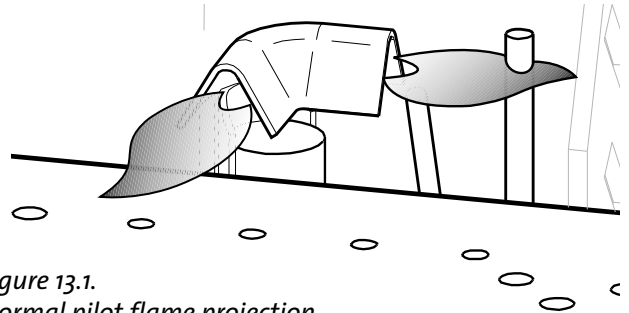
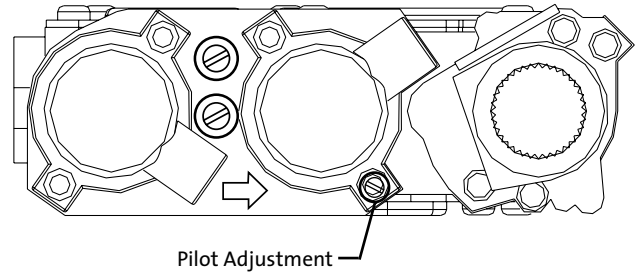

Figure 13.1.
Figure 13.2. Pilot flame regulation.
2. **PILOT FLAME:** You can monitor the pilot flame located behind the burner at the rear of the firebox. The pilot flame should be steady - not lifting or floating. The flame should be blue in color around the pilot hood, with traces of yellow toward the outer edges. Fig. 13.1. The pilot flame should engulf the top 1/8" of the flame sensor. The pilot flame should project from the pilot hood port toward the burner carry-over ports. Adjust the pilot flame using the adjustment screw to the left of the valve regulator. See fig. 13.2.